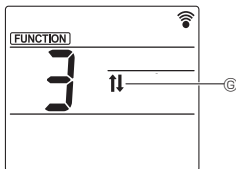

Fig. 5-5
5.2. Operating the ascending/descending panel (Fig. 5-1, Fig. 5-5)